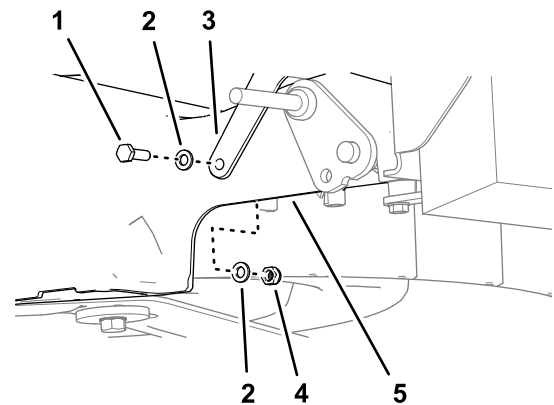

Figure 13
2. Assemble the brush strut to the mower deck (Figure 13) with a capscrew (6 x 20 mm), 2 washers (6 mm), and a locknut (6 mm).